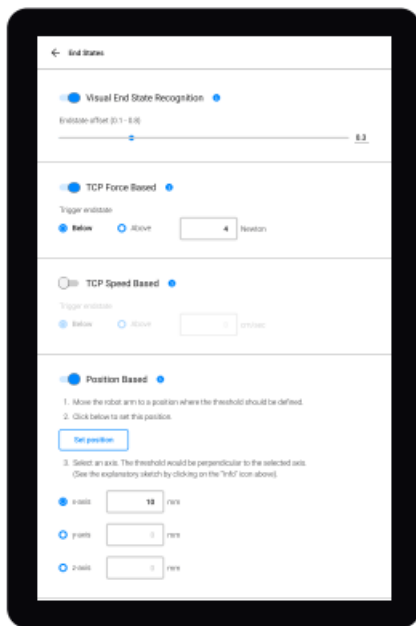

FIGURE 9
2. Configuration: For each skill, configure the condition (end-state) when the MIRAI skill should hand back the control to the UR host program. This end-state is typically reached when (Figure 9):13